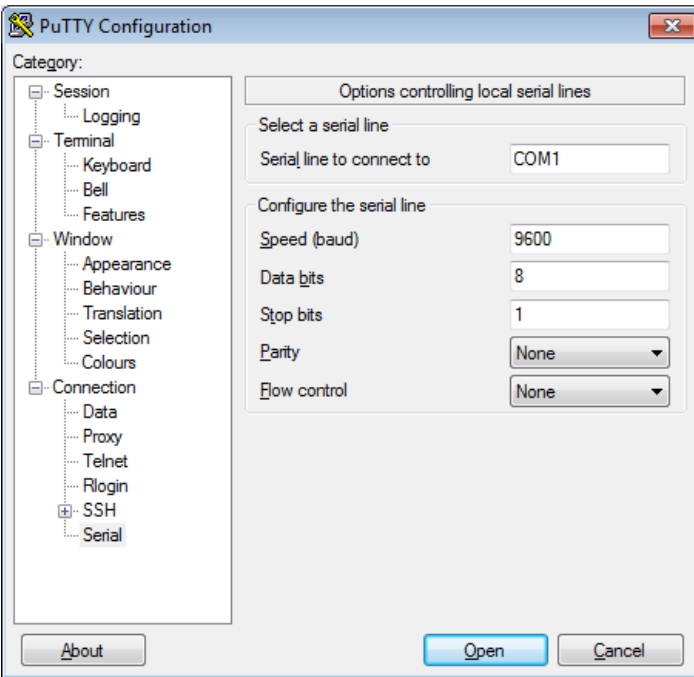

Figure 2-4: PuTTY serial configuration
- ❑ Enter the serial configuration parameters of the terminal emulation program shown in Figure 2-4.